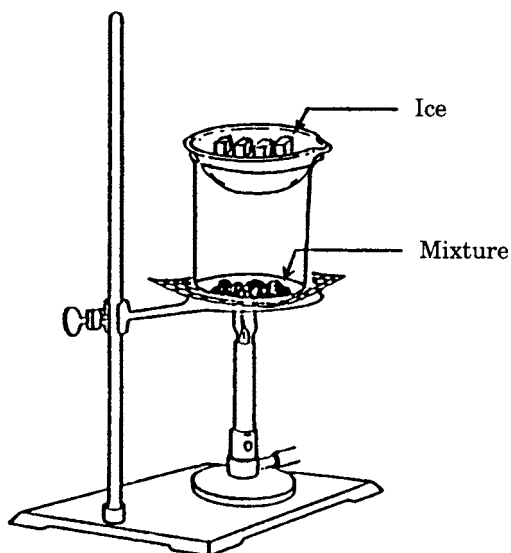

Figure 3.3
1. Obtain a clean, dry 150-mL beaker and carefully weigh it to the nearest 0.001 g. Record this weight for beaker 1 on the Report Sheet (1). Obtain a sample of the unknown mixture from your instructor; use a mortar and pestle to grind the mixture into a fine powder. With the beaker still on the balance, carefully transfer approximately 2 g of the unknown mixture into the beaker. Record the weight of the beaker with the contents to the nearest 0.001 g (2). Calculate the exact sample weight by subtraction (3).
2. Set up and do the sublimation in the hood. Place an evaporating dish on top of the beaker containing the mixture. Place the beaker and evaporating dish on a wire gauze with an iron ring and ring stand assembly as shown in Figure 3.3. Place ice in the evaporating dish, being careful not to get any water on the underside of the evaporating dish or inside the beaker.